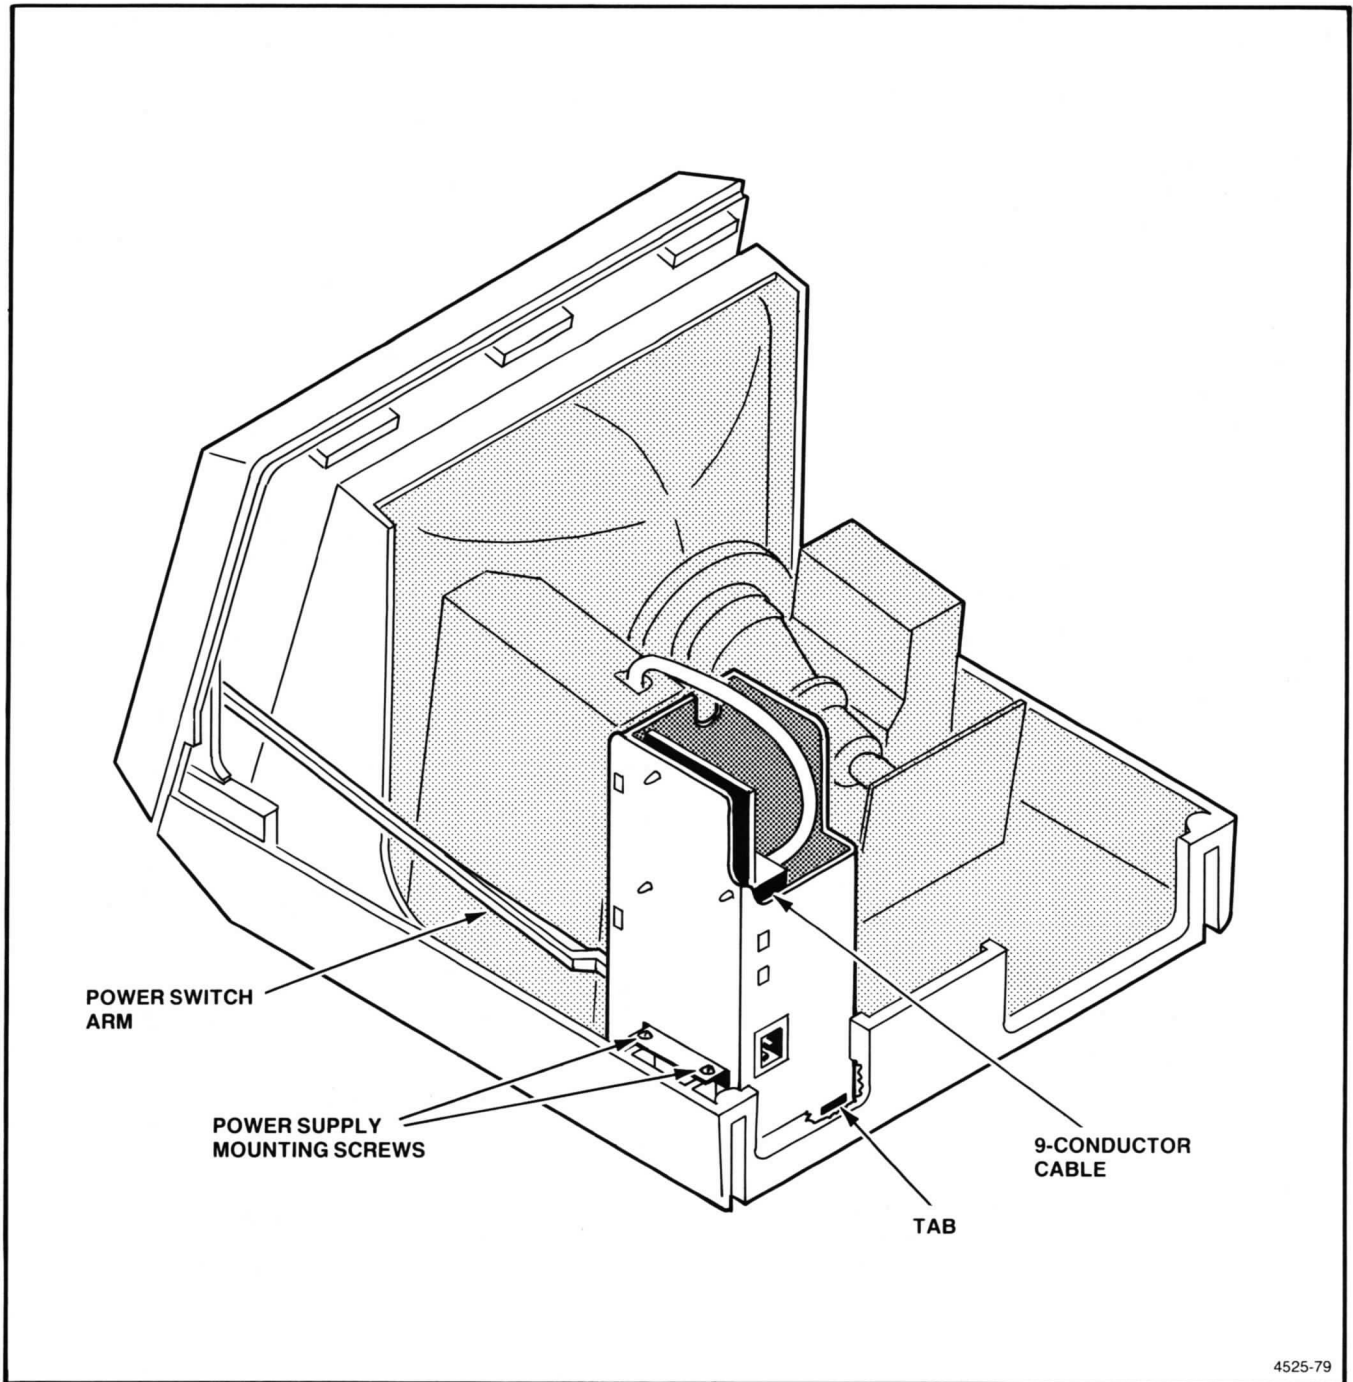

Figure 6-3. Power Supply Mounting Screws.
4. Unscrew the two power supply mounting screws, on the outside edge of the terminal. See Figure 6-3.